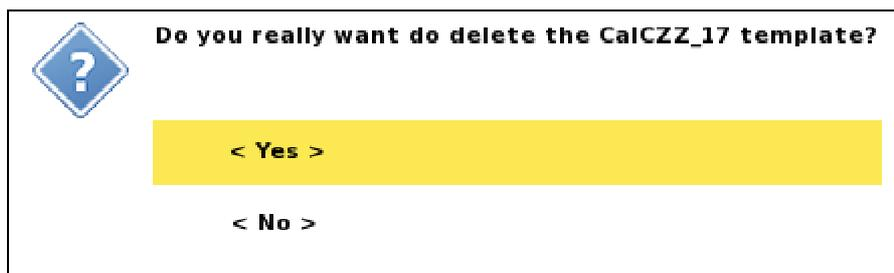

Figure 29 Confirm Template Delete dialog
- **Delete:** A confirmation dialog is shown (Figure 29) and the *Template* will be deleted if the user confirms the deletion